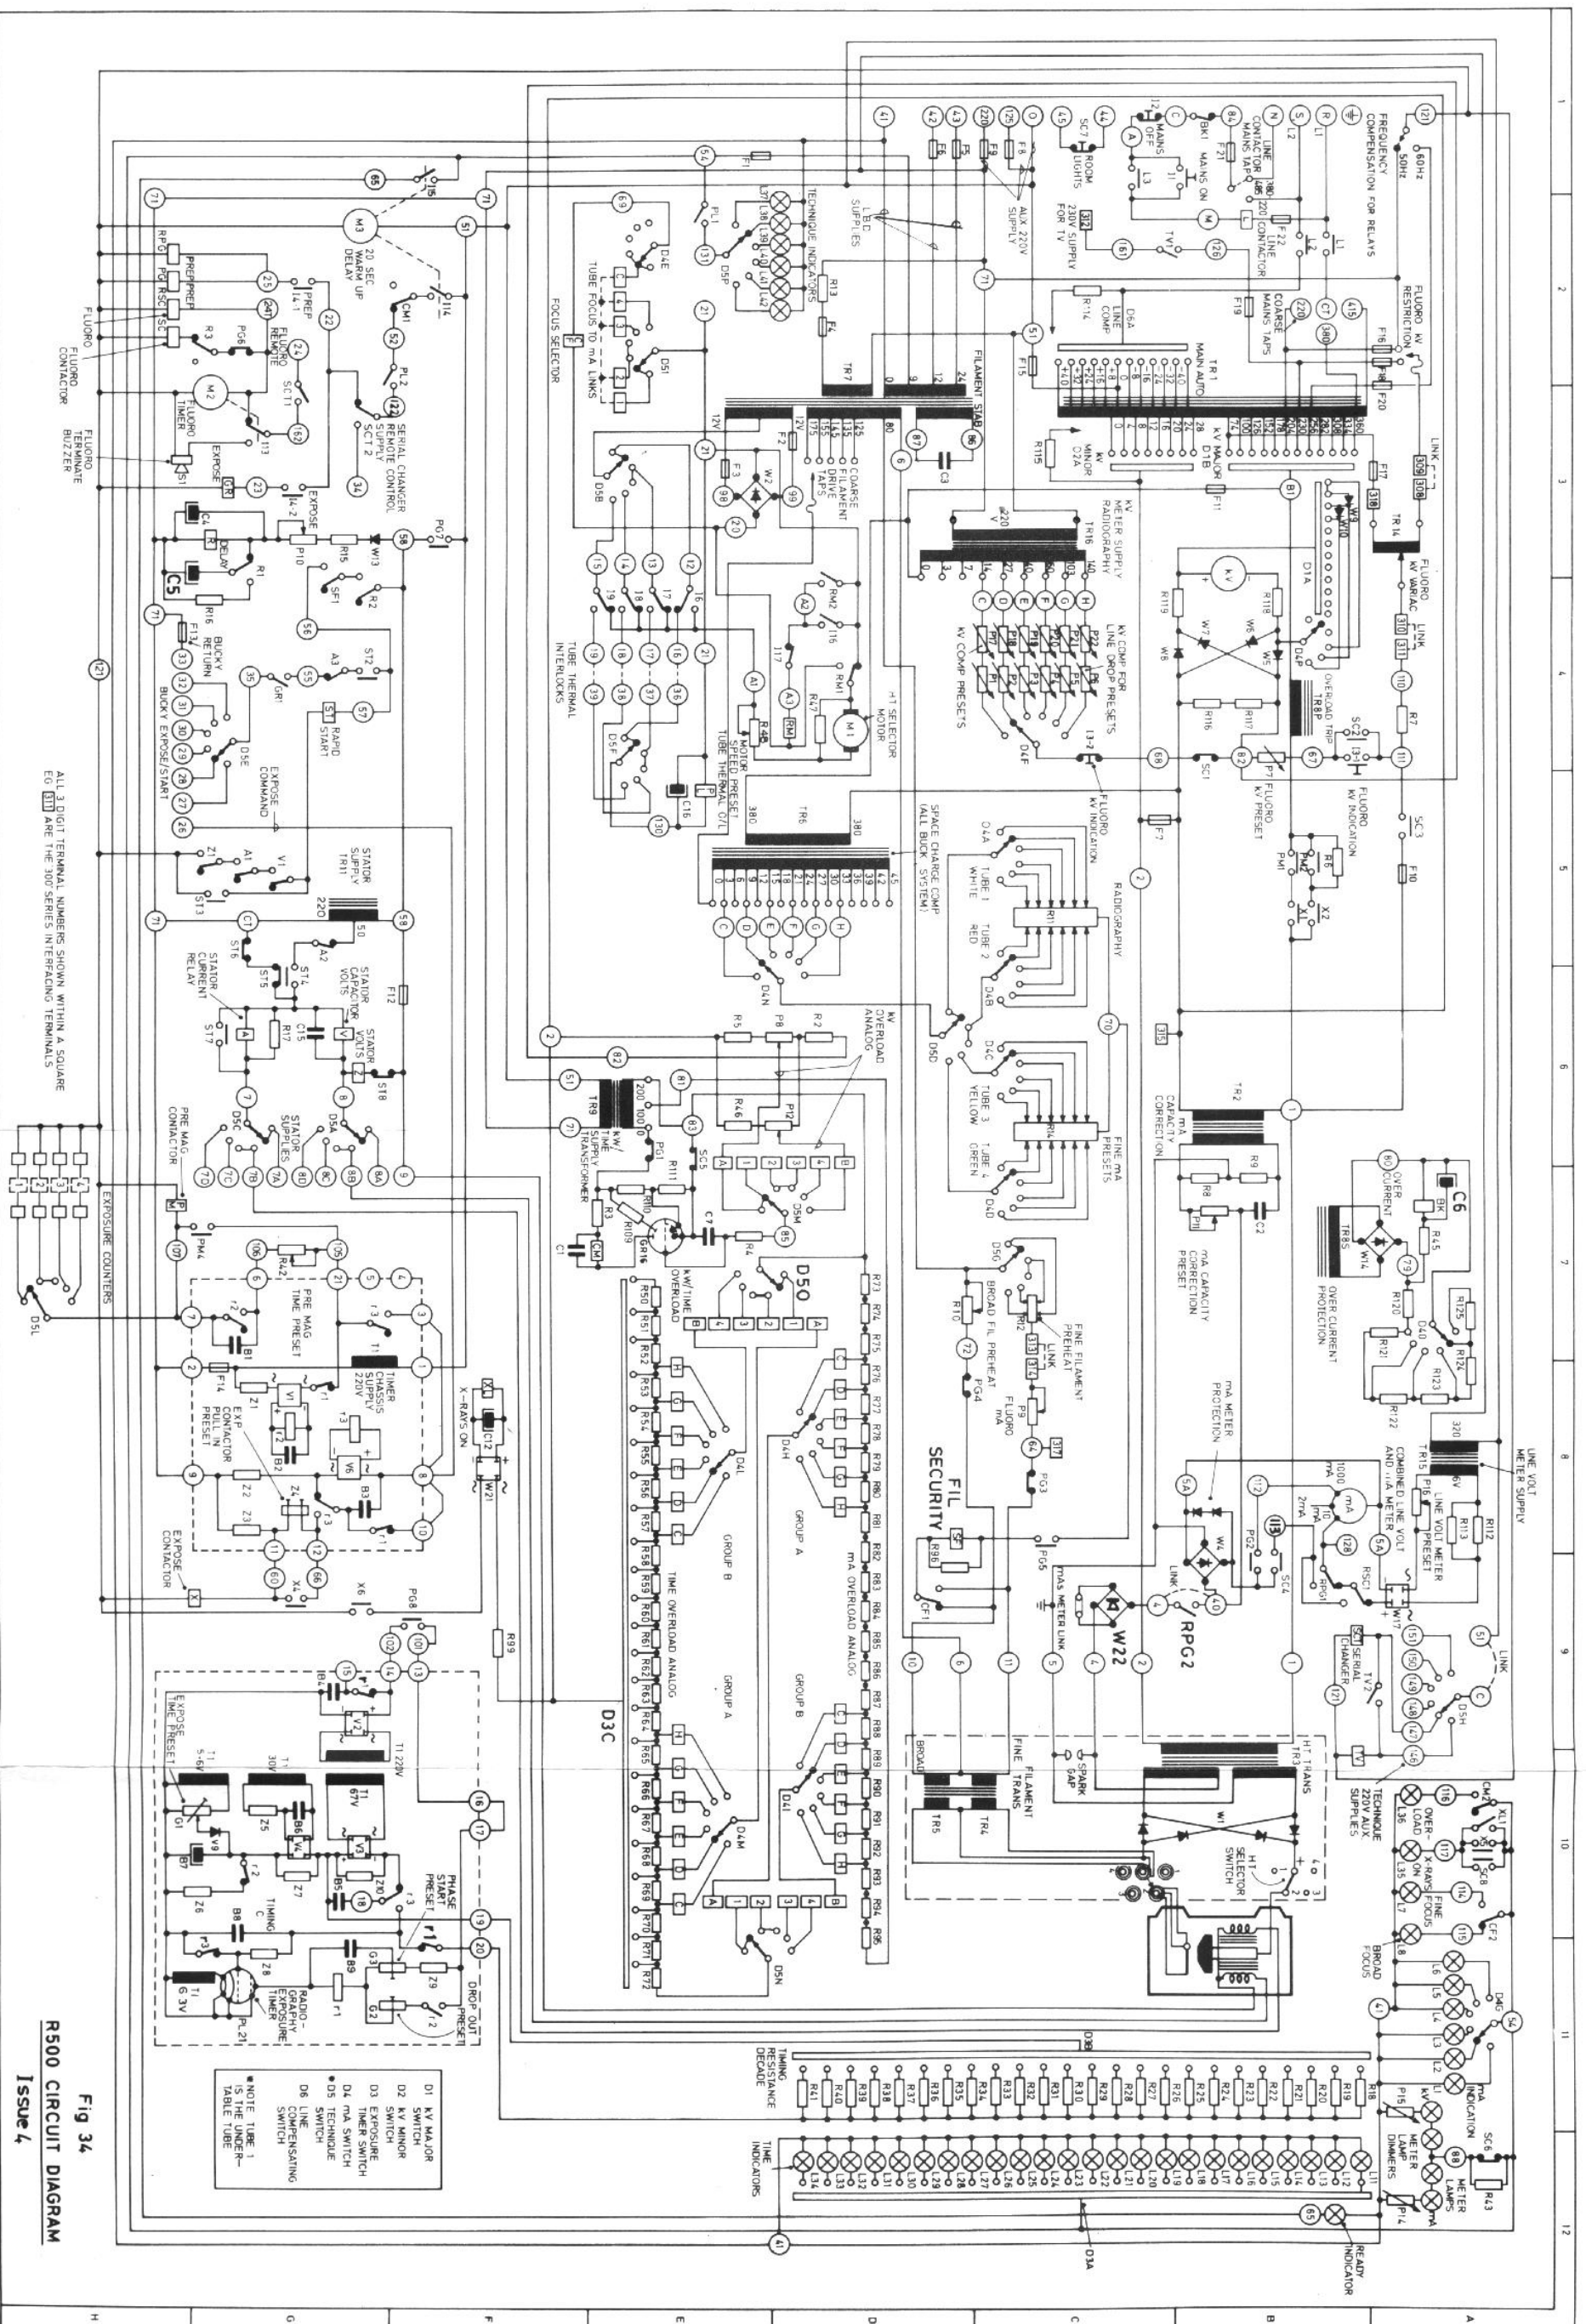

Fig 34
9 TECHNICAL DESCRIPTION Refer to Fig 34, page 65.
This facility is shown on Fig 5 and the circuit is displayed in Grid Ref. 2B of Fig 34, page 65.
A 50-60Hz link is therefore included (see grid reference 1A of Fig 34) which will add a voltage increment to terminal 121 when the link is set for 60Hz operation.
- i) I 3-2 (See Fig 35 and also grid 4c of Fig 34)
ii) I 3-1 (Grid 4B of Fig 34)